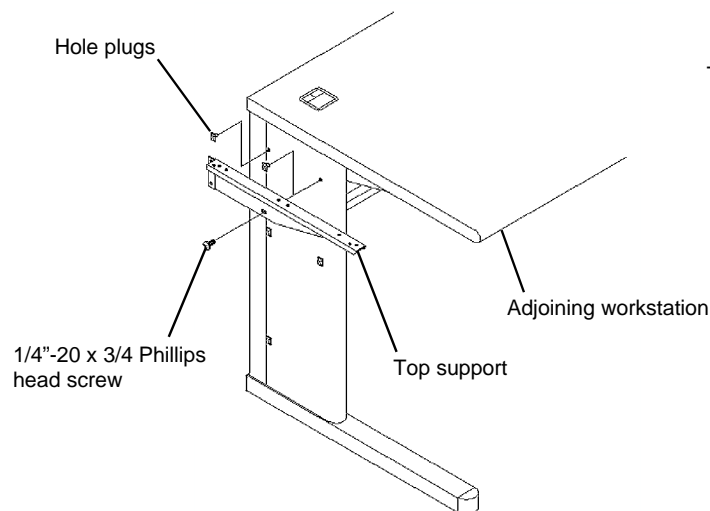

Figure 3
4. Remove the top two plastic hole plugs from the adjoining LINX workstation and install the remaining Top Support using one 1/4"-20 x 3/4" Phillips head screw. **Do not** fully tighten at this time. See **Figure 3**.